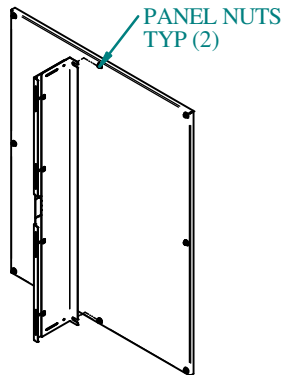

FIG. 1
- LOOSEN PANEL NUTS AS SHOWN IN FIG. 1